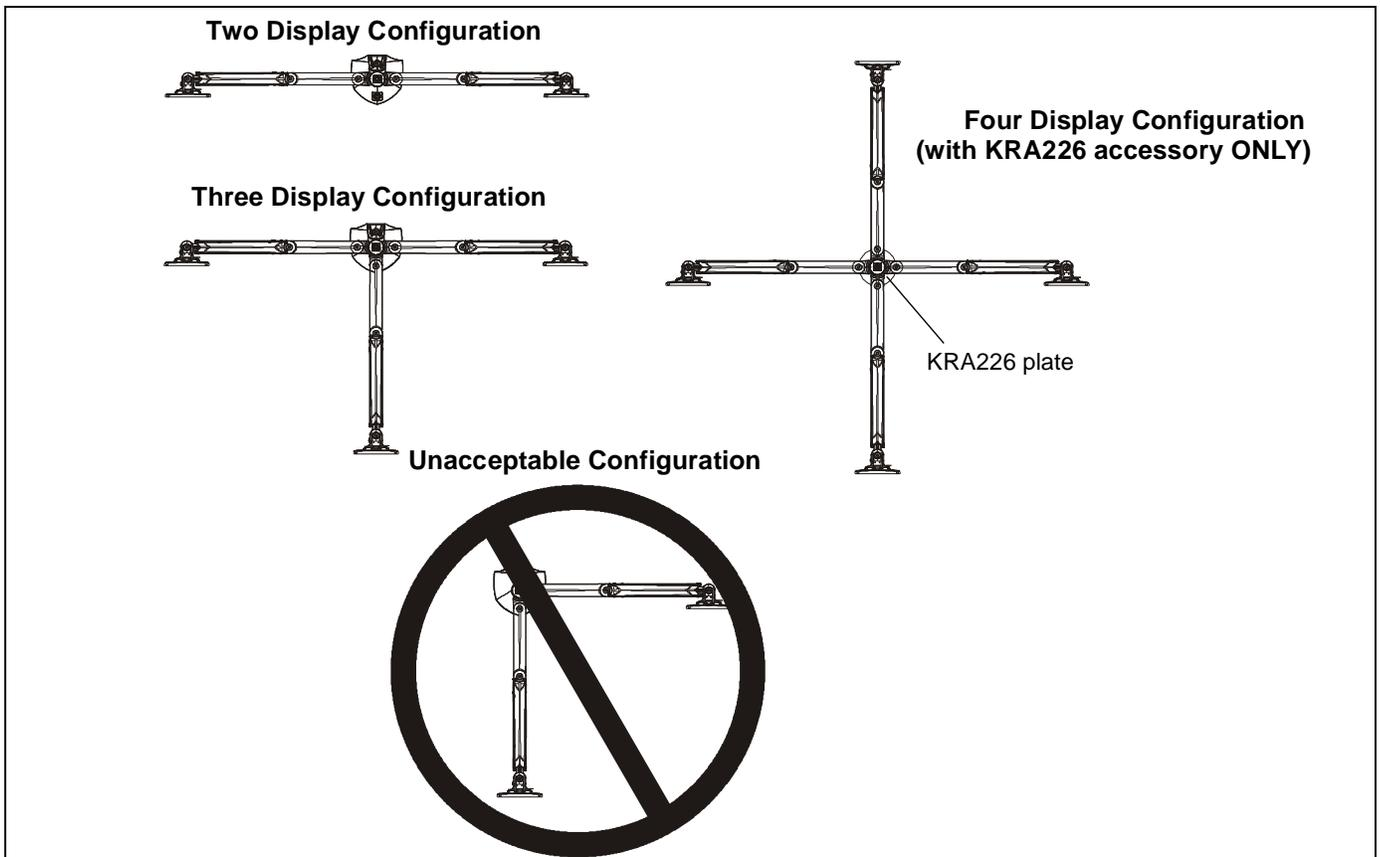

Figure 4
**IMPORTANT !** : The only acceptable two display configuration is for the arms to be installed on opposite sides of the column! See Figure 4 for acceptable and non-acceptable configurations.